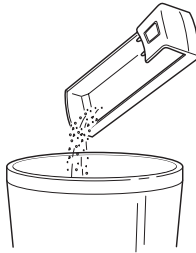

Fig. 10
- 2** Empty dust container contents. (**Fig. 10**) If desired, you may rinse with water to clean the dust container - but dry thoroughly before replacing.